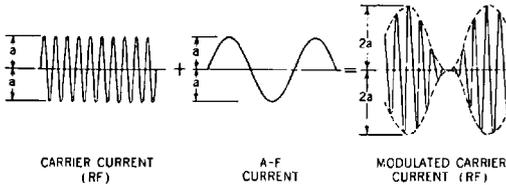

Fig. 42-4. One hundred per cent modulation.
You will note in Figure 42-4 that the amplitude of the carrier current is measured by the distance  $a$ . The amplitude of the audio-frequency current is assumed here to be the same value ( $a$ ). Now consider the positive half (above the  $X$  axis) of the carrier current. If the audio-frequency current is added to it, the positive half-cycles of audio-frequency current will be added to the carrier current to produce the peaks in the modulated current curve. These peaks will be equal to *twice* the amplitude of the carrier current.
**Power Relations in the Modulated Transmitter.** The amount of power required to modulate a transmitter depends on the percentage and type of modulation. To modulate a carrier 100 per cent with a single tone (as in Fig. 42-4) requires an audio-frequency power equal to one-half of the radio-frequency carrier power. Here is how it is calculated.
For 100 per cent modulation, the audio-frequency voltage applied to the r-f amplifier plate circuit must have a peak value equal to the direct-current voltage on the r-f amplifier before modulation (Fig. 42-4). To obtain this without distortion, the radio-frequency amplifier must be operated at a direct-current plate voltage *less* than the modulator plate voltage. The extent of the voltage difference is determined by the type of modulator tube used. To obtain this drop in voltage, the resistor R is employed. The capacitor C permits audio-frequency voltages to flow around this resistor. This method of modulation is called *choke-coupled plate modulation*.